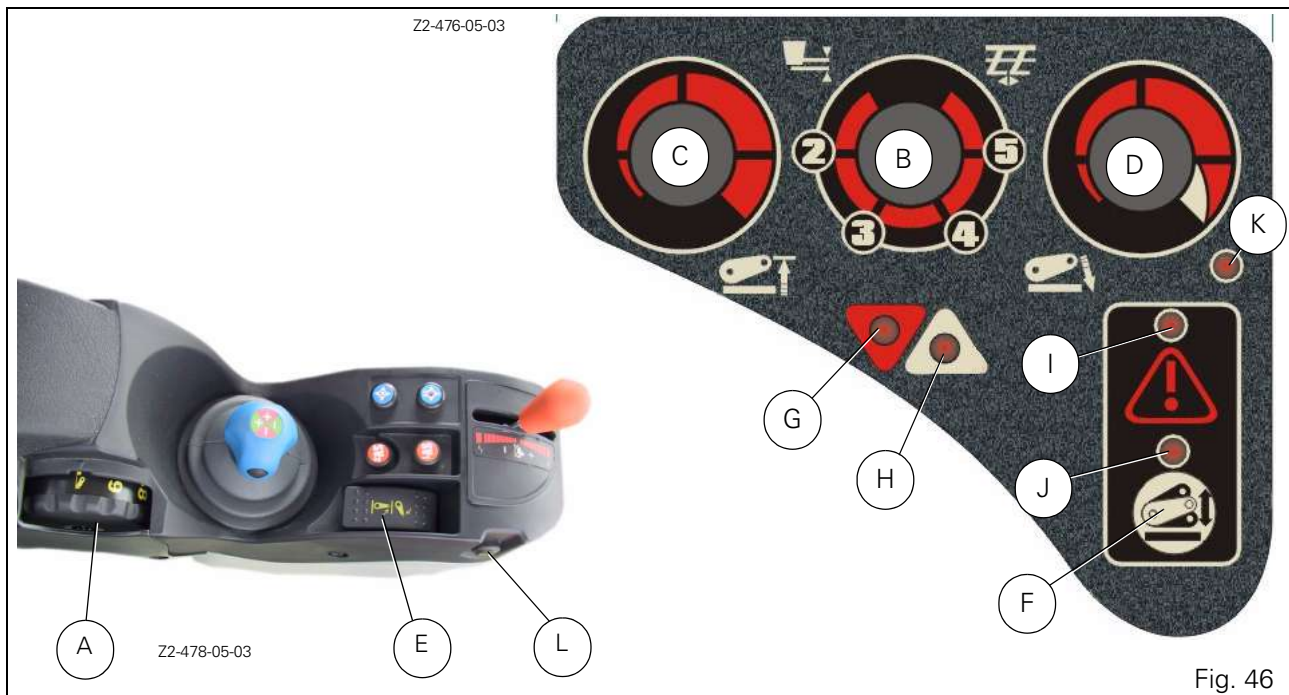

Fig. 46
- Select the minimum position with the knob (B, Fig. 46).
- Adjust the maximum linkage height according to the transport implement using the height setting knob (C). Start from minimum position.
- Move the knob (D) to position 1 (padlock).